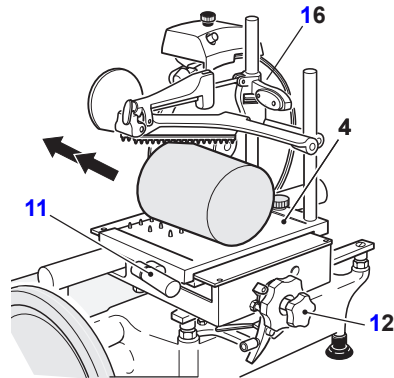

Figure 10-3
- Turn the product holder operating handwheel (12) counterclockwise or gently press down on the fast forward lever (11) to move the product holder (4) towards the knife (Figure 10-3).